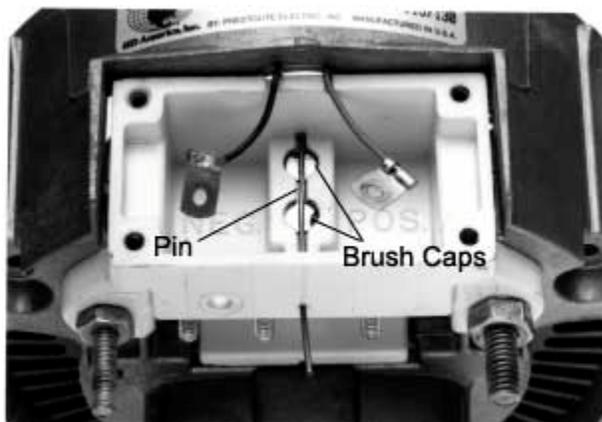

Figure 23
18.1 Insert a brush in each of the two brush openings. Compress the springs and retain with a pin inserted through the access hole in the regulator holder. A suitable pin can be made of a 1/16" drill or brazing wire (Figure 23).